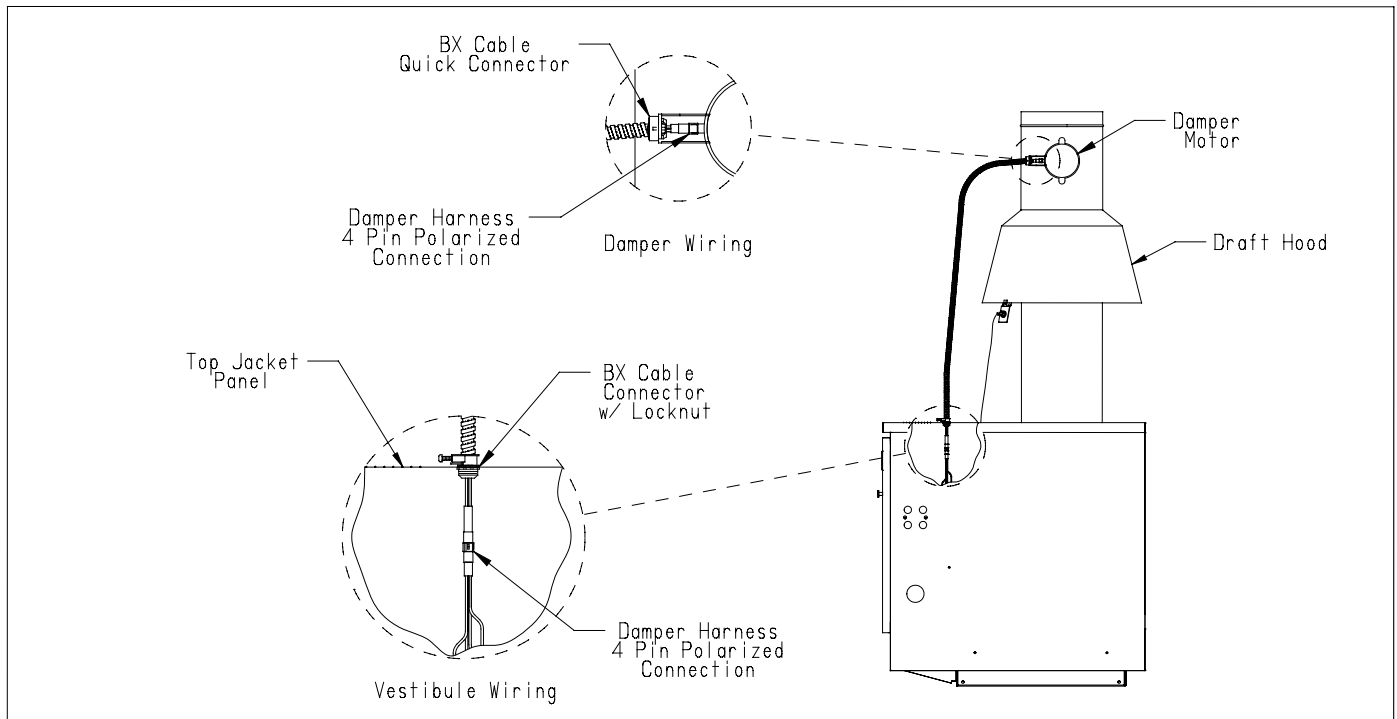

Figure 17: Vent Damper Installation Details
- 15) Vent damper installation is optional on all Series 16 model boilers. When used, install the vent damper (Figure 17) as follows: